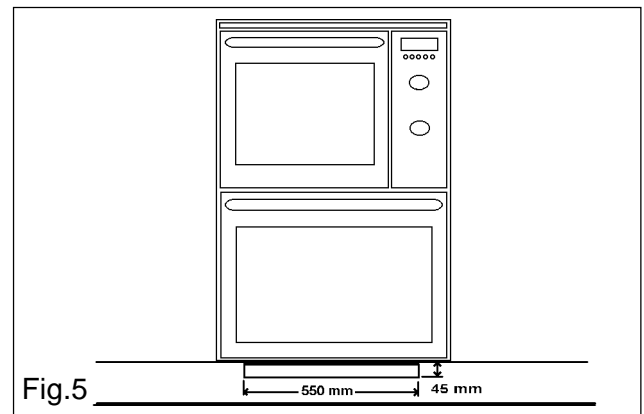

Fig.5
- Cut the required ventilation slot in the plinth as detailed in Fig.5.